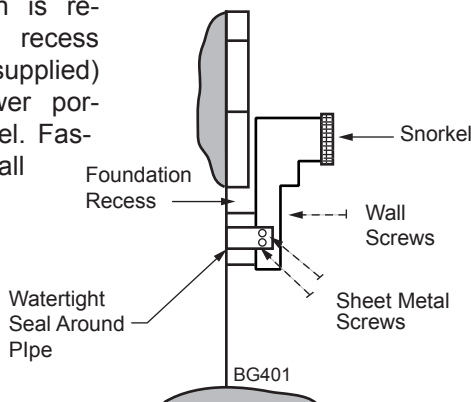

**Figure 21 -
2. Remove soil to a depth of approximately 16" (406 mm) below base of snorkel. Install drain pipe. Install window well (not supplied). Refill hole with 12" (305 mm) of coarse gravel leaving a clearance of approximately 4" (102 mm) below snorkel. *Figure 21*
7. Level the soil so as to maintain a 4" (102 mm) clearance below snorkel. *Figure 21*